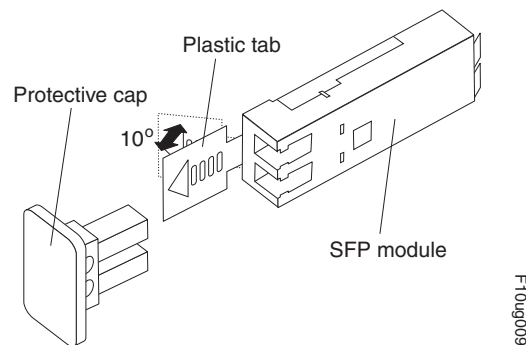

Figure 21. Unlocking the SFP module latch - plastic variety
- For SFP modules that contain plastic tabs, unlock the SFP module latch by pulling the plastic tab outward 10°, as shown in Figure 21.